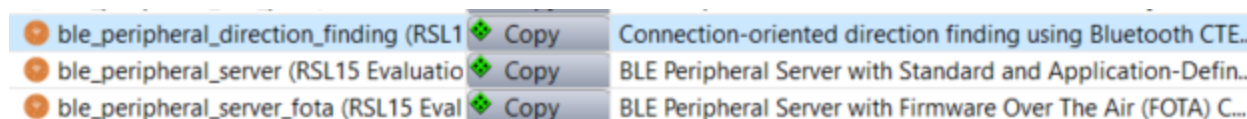

Figure 15. Bringing the Project Into the Workspace
1. Copy the *ble\_peripheral\_direction\_finding* sample application into your workspace. The C/C++ perspective opens and displays your newly copied project, as shown below in the "Bringing the Project Into the Workspace" figure (Figure 15).